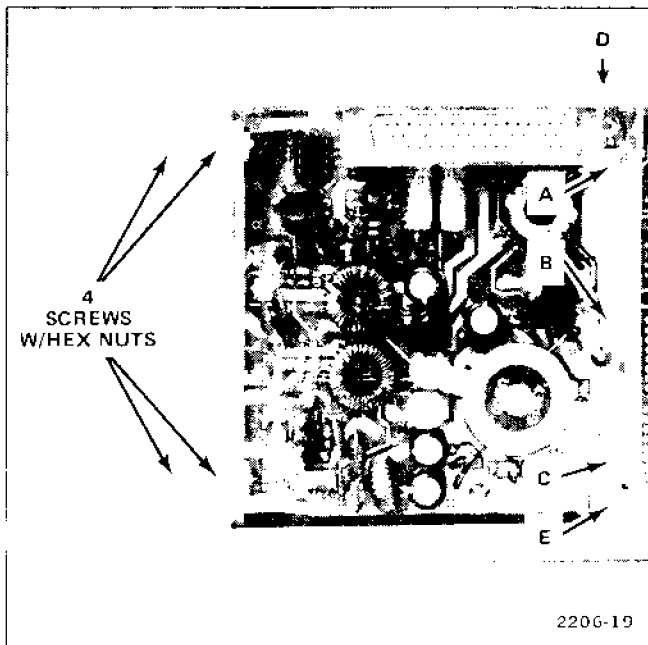

Figure 4-8. Locations of securing screws and shield on the Power Supply circuit board.
2. Remove 5 screws (A, B, C, D, and E on Fig. 4-8) in order listed.